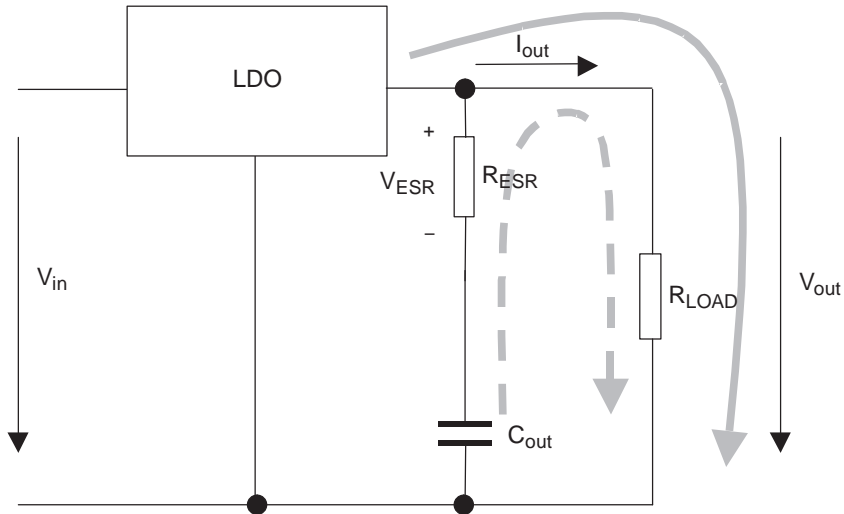
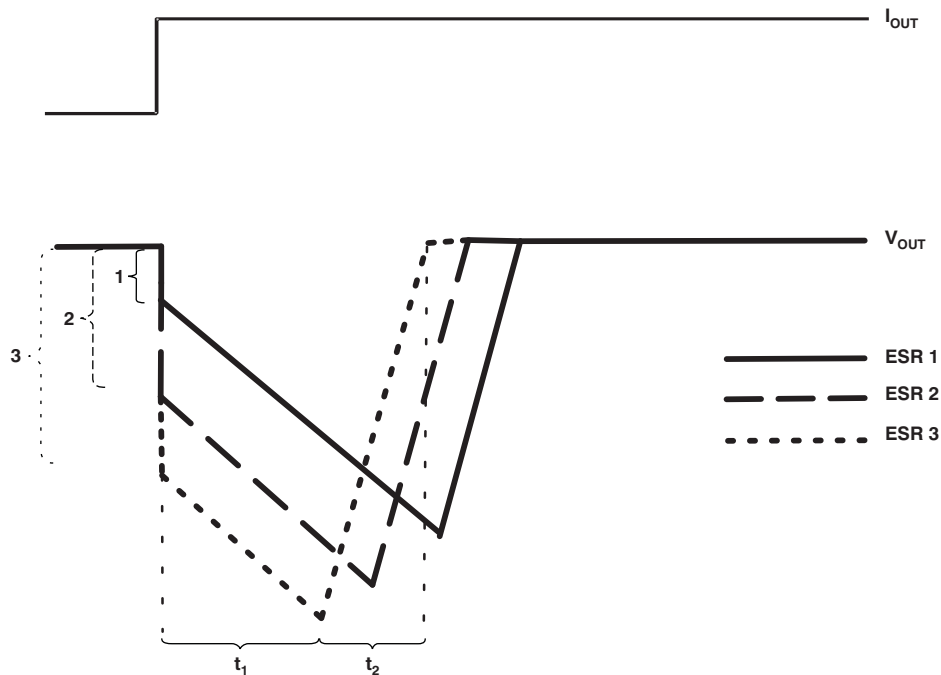

Figure 38. LDO Output Stage with Parasitic Resistances ESR
Figure 39. Correlation of Different ESRs and Their Influence on the Regulation of V_O at a Load Step from Low-to-High Output Current
Figure 38 shows the output capacitor and its parasitic impedances in a typical LDO output stage.
- The LDO is not able to supply the sudden current need because of its response time (t_1 in Figure 39). Therefore, capacitor C_{OUT} provides the current for the new load condition (dashed arrow). C_{OUT} now acts like a battery with an internal resistance, ESR. Depending on the current demand at the output, a voltage drop occurs at R_{ESR} . This voltage is shown as V_{ESR} in Figure 38.
- When C_{OUT} is conducting current to the load, initial voltage at the load will be $V_{OUT} = V_{(CO)} - V_{ESR}$. As a result of the discharge of C_{OUT} , the output voltage V_{OUT} drops continuously until the response time t_1 of the LDO is reached and the LDO resumes supplying the load. From this point, the output voltage starts rising again until it reaches the regulated voltage. This period is shown as t_2 in Figure 39.
Figure 39 also shows the impact of different ESRs on the output voltage. The left brackets show different levels of ESRs where number 1 displays the lowest and number 3 displays the highest ESR.